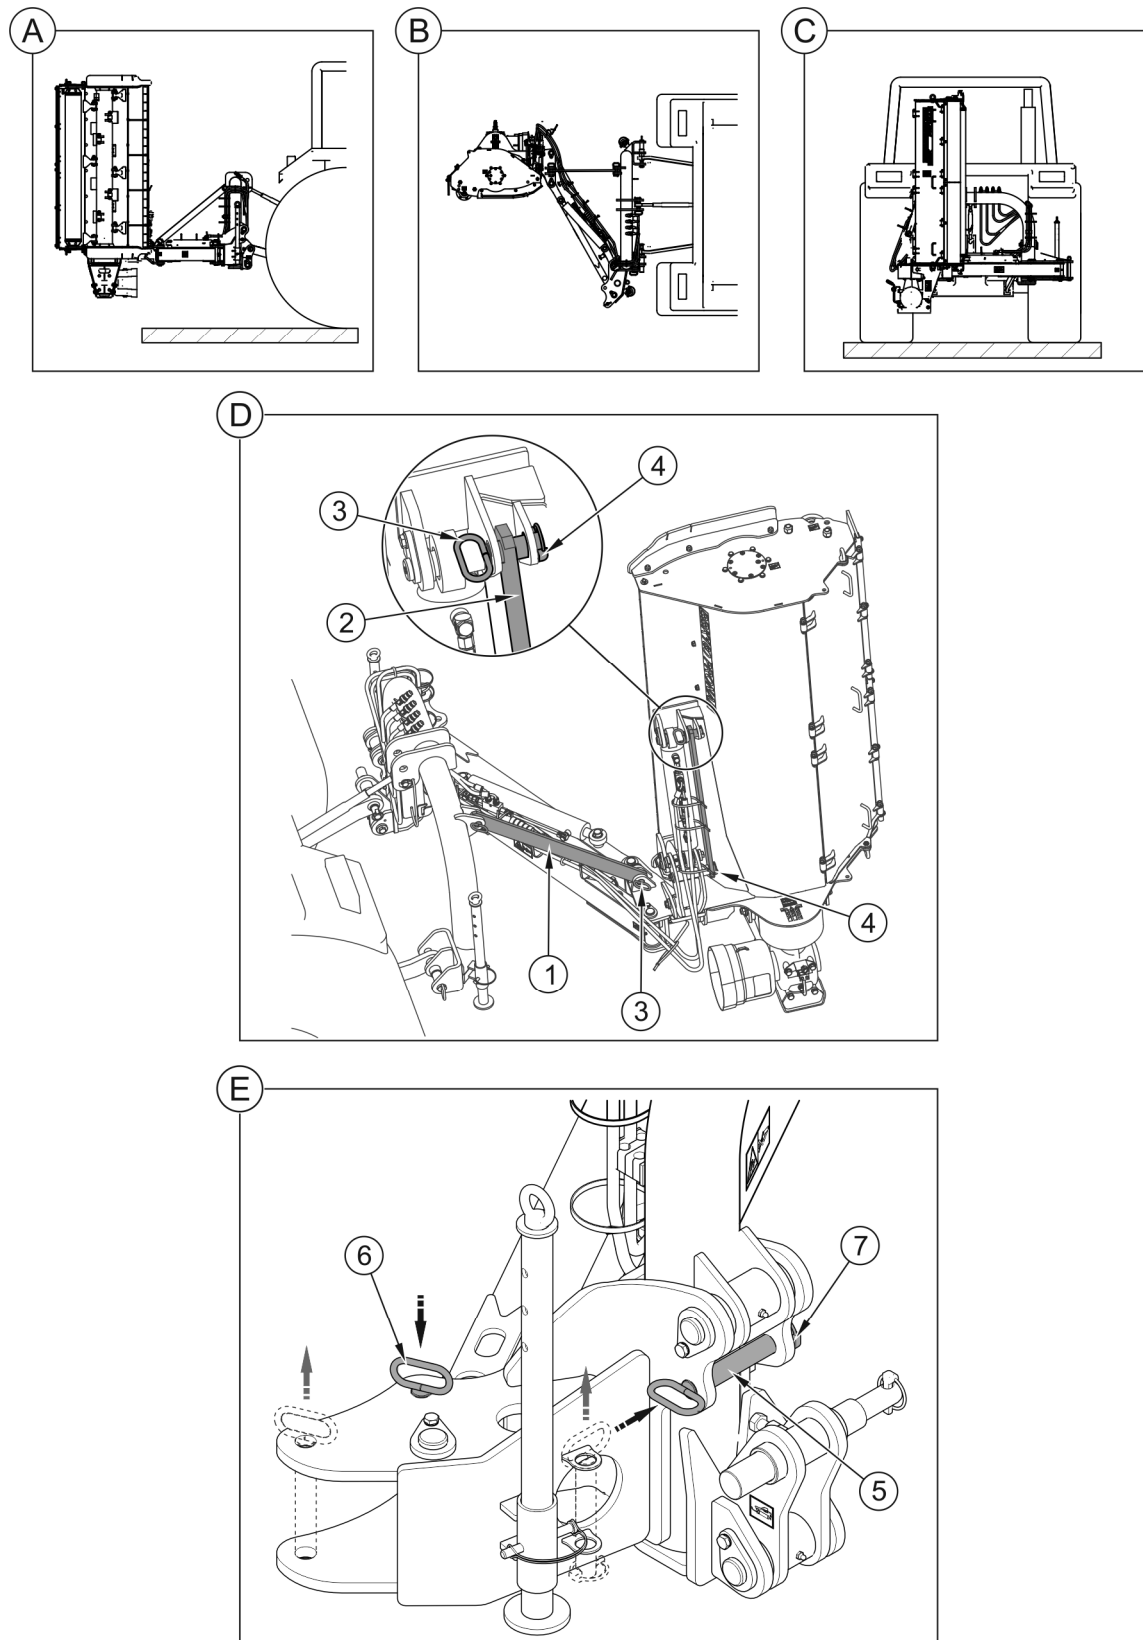

FIGURE 4.4 Transport position
For transport to place of work and back, raise the mower on the tractor three point linkage so that the lower pins of the linkage are at a height of not less than 500 mm above the ground. Retract the support feet. Set the minimum lateral tipping of the mower by means of the horizontal tipping cylinder (the cylinder piston should be maximally retracted). Raise the mower to vertical position by means of the inclination adjustment cylinder and secure the cylinders using cylinder locks (1, 2), pins (3) and linchpins (4). Change the position of transport pin (5) and lock pin (6) and secure with linchpins (7) (FIGURE 4.4),